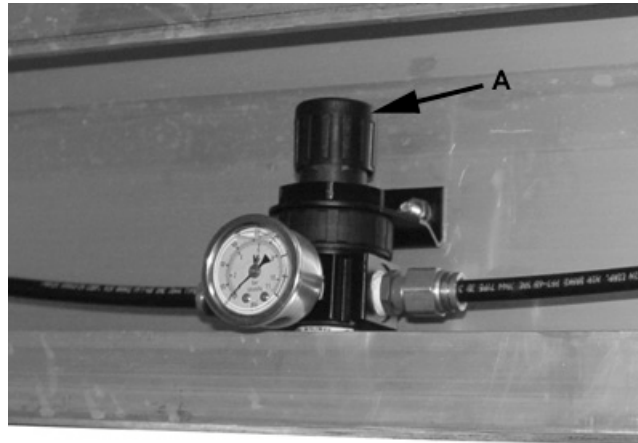

Figure 4-1 Lift Axle Regulator Valve
Your trailer can be equipped with one or more lift axles and may be equipped with a regulator valve. With trailer loaded, the axle(s) are lowered to help carry and distribute the load forces on the trailer. Turn the valve (A) to set the air pressure to the desired level. See figure 4-1.